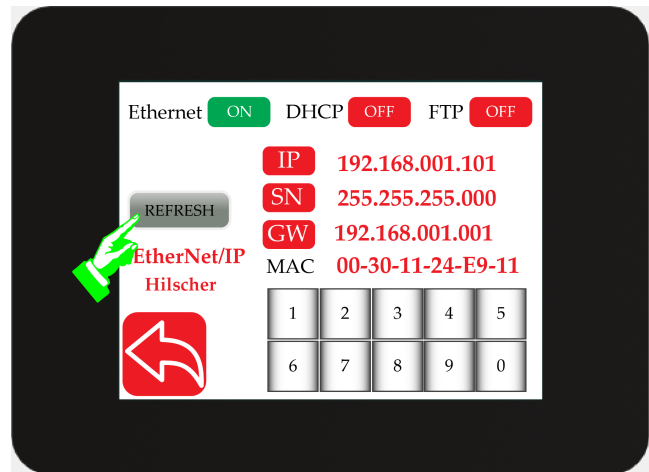

Figure 5.99: Refreshing the network information to verify the new parameters are accepted on the network
4. Subsequently, by pressing the set button, the user can send the confirmed value to the Ethernet module. This action will cause the IP address button to change color to red and display the refresh button, as depicted in Figure 5.99.